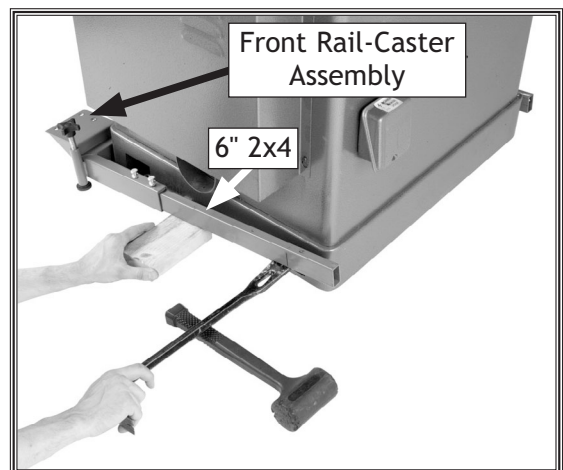

Figure 21. 2x4 placed under rail after using crow bar and mallet to raise rail up.
15. Put on safety glasses, use a crow bar and rubber mallet to raise one of the side rails that is attached to the front corner bracket assembly, then place a 6" 2x4 under the rail to support it, as shown in **Figure 21**.